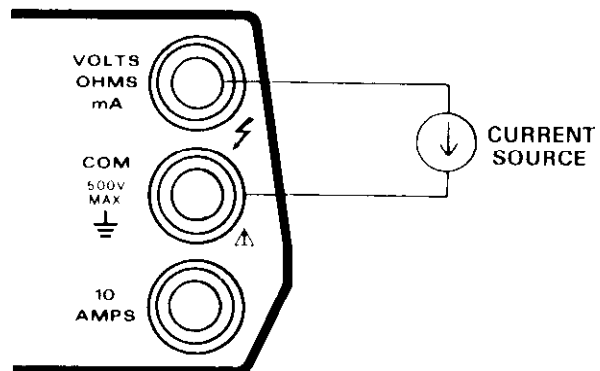

Figure 2-6. Current Measurements up to 2000mA
- Connect the test leads to the current source as shown in Figure 2-6. If an overrange indication is displayed select a higher range until a normal reading is shown. Use the lowest possible range for the best accuracy.